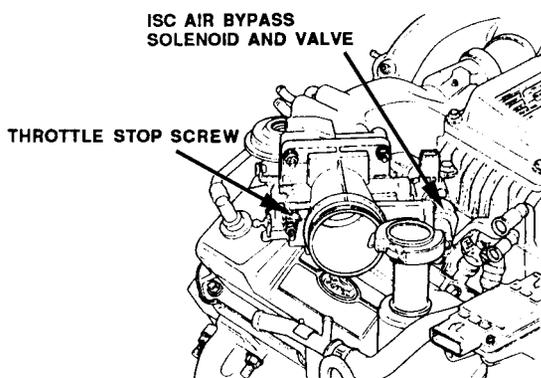

Figure F050-16
1. Place the transmission in park (AT) or neutral (MT).
3. Tighten the throttle stop screw (Figure F050-16), so that it touches the feeler gauge; then turn it another 1-1/2 turns.